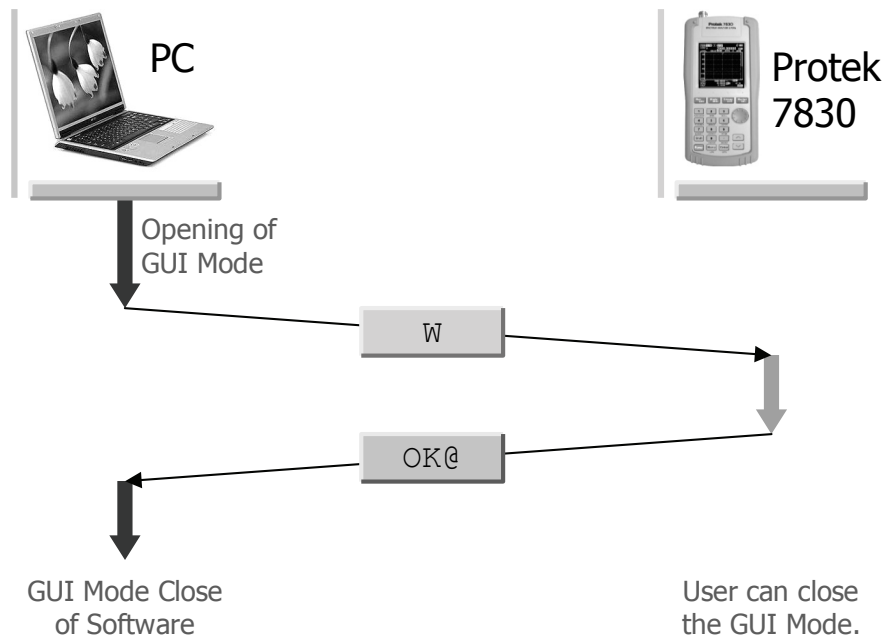

Figure 5.14. “GUI Mode Close” Protocol
- 1) Using the “GUI Mode Open” , after opening the GUI mode, when closing it again, this protocol is using. Refer Figure 5.14. At first GUI mode is closed and then open the GUI mode again. The “GUI Mode Open” is used.